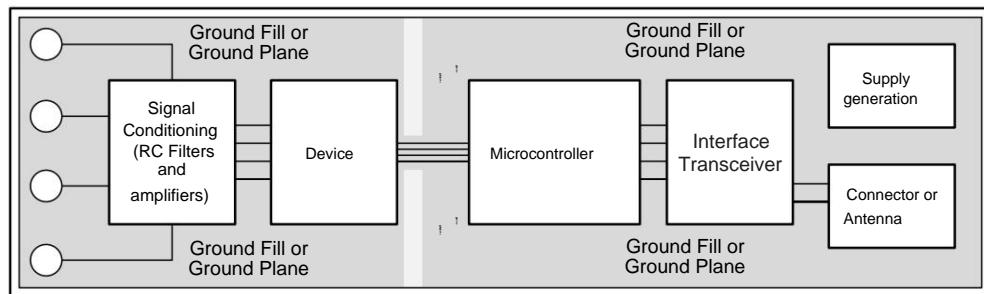

Figure 123. System Component Placement
recommends employing best design practices when laying out a printed-circuit board (PCB) for both analog and digital components. This recommendation generally means that the layout separates analog components [such as ADCs, amplifiers, references, digital-to-analog converters (DACs), and analog MUXs] from digital components [such as microcontrollers, complex programmable logic devices (CPLDs), field-programmable gate arrays (FPGAs), radio frequency (RF) transceivers, universal serial bus (USB) transceivers, and switching regulators]. An example of good component placement is shown in Figure 123. Although Figure 123 provides a good example of component placement, the best placement for each application is unique to the geometries, components, and PCB fabrication capabilities employed. That is, there is no single layout that is perfect for every design and careful consideration must always be used when designing with any analog component.